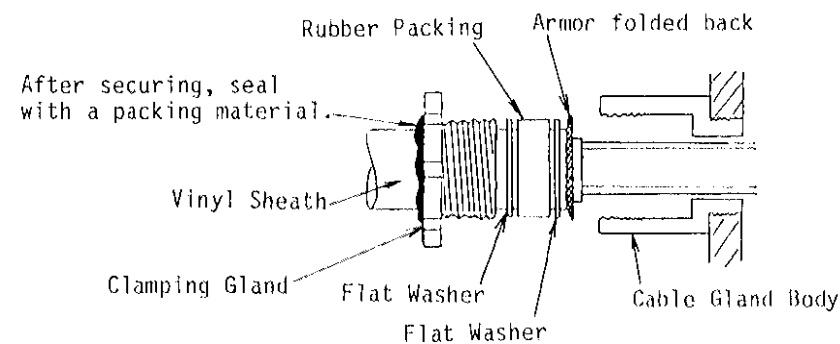

Fig.11
7. Secure the clamping gland to the body, then seal with a packing material. See Fig.11.